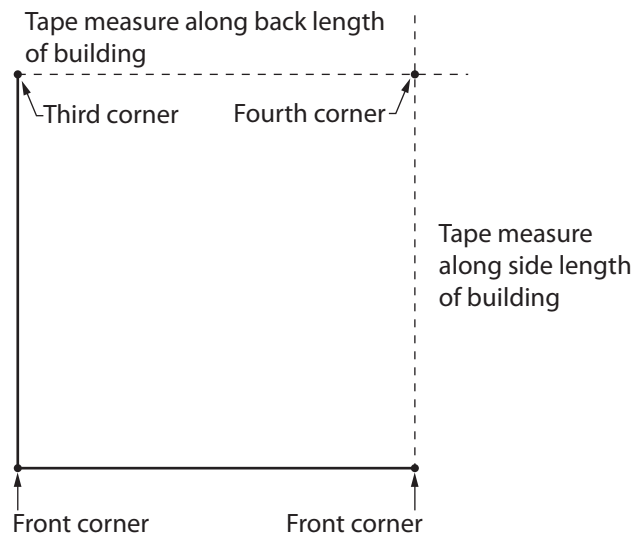

Figure 3 — Locating the fourth corner
4. Measure both missing sides to find the location of the fourth corner. To do this, use two measuring tapes, one running from the third corner across the back building line and the other from the front corner along the missing side building line. Mark the fourth corner where the two measurements intersect (Figure 3).